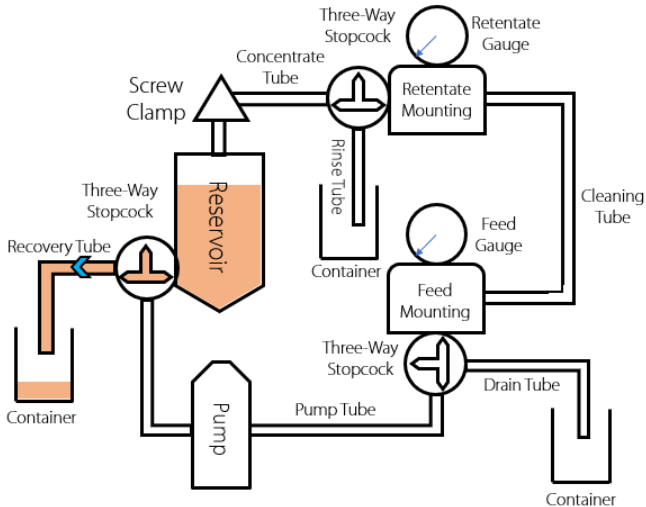

Figure 5
- e. Setting the three-way stopcock at the bottom of the reservoir to adjust the flow path as shown in figure 5. Open one of the lid caps on the reservoir lid, the solution would drain automatically by gravity.